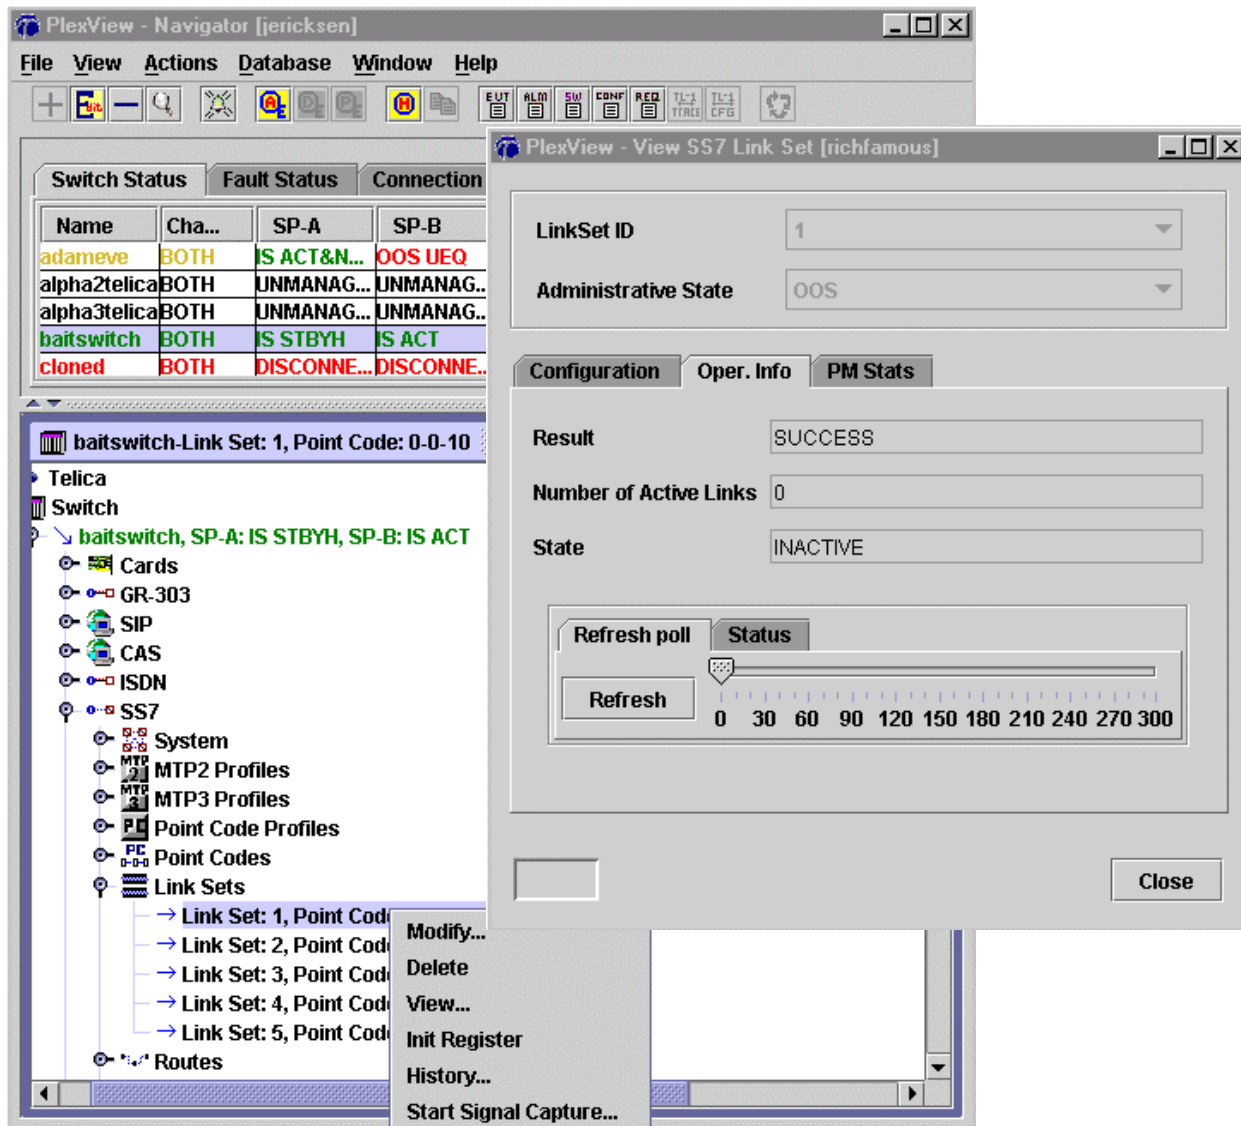

Figure 1. Status of Link Set
5. Retrieve status of link set. Double-click the switch name in the switch status panel to select it for the main panel. Double-click *SS7* and then *Link Sets*. Right-click a link set and select *View, Oper. Info* and then click *Refresh* near the bottom of the panel for latest information. See Figure 1.